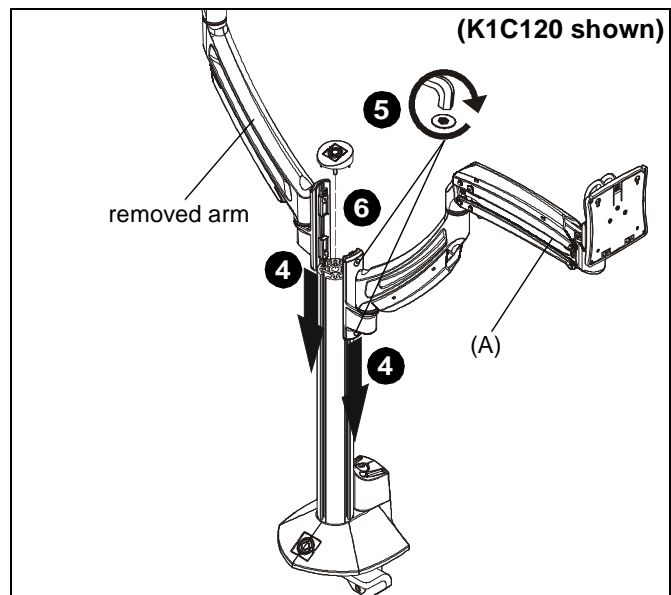

Figure 3
4. Slide KRA221 arm (A) and removed arm onto K1C column on left and right sides of the column. (See Figure 3)
5. Tighten screws to secure each arm to column at desired mounting height. (See Figure 3)
6. Replace cap on top of column. (See Figure 3)